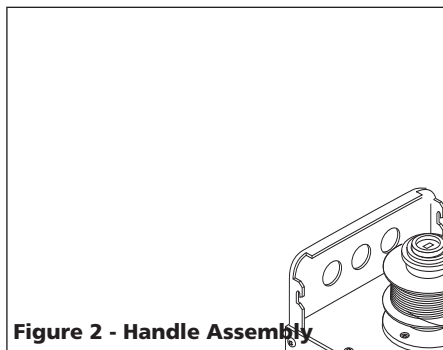

Figure 2 - Handle Assembly
1. Place handle assembly on welder, aligning two holes in plastic ends with threaded holes in welder housing (Fig. 2).